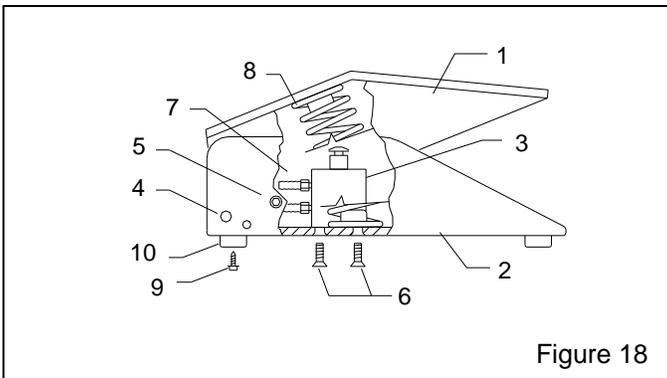

Figure 18
9.3 Foot Pedal Assembly, Figure 18